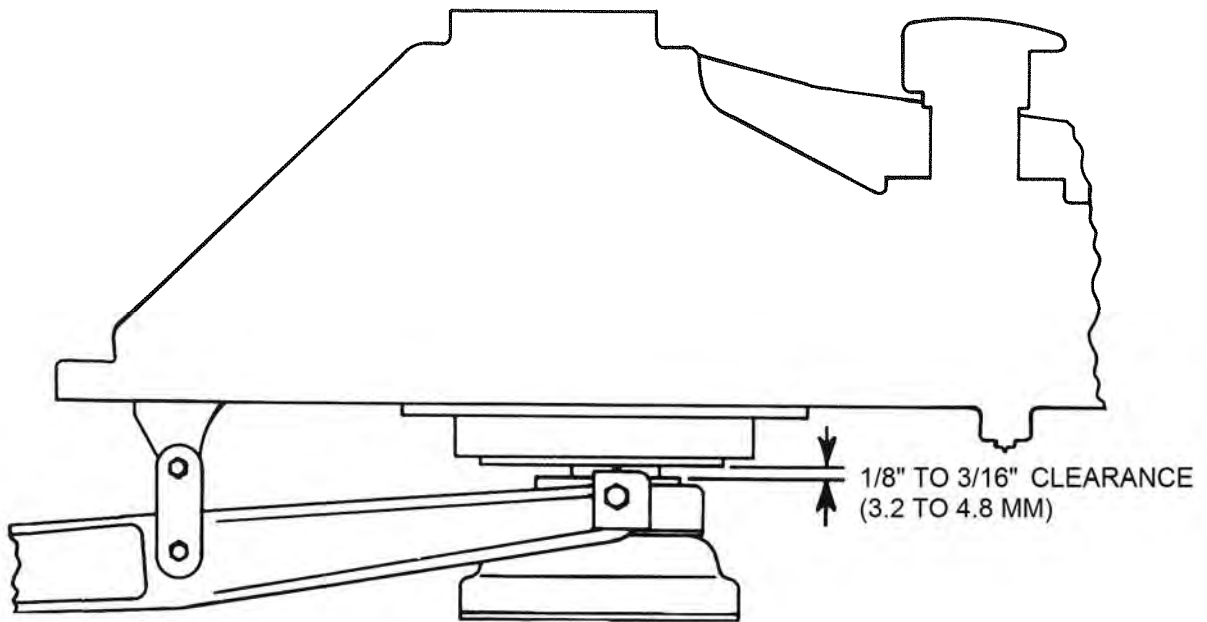

Figure 12-15. Collective Housing to Seal Housing Clearance
2. Adjust rod (5) to obtain 1/8" to 3/16" clearance between the collective bearing housing spacer and swashplate mount flange (Figure 12-15). Secure check nuts.